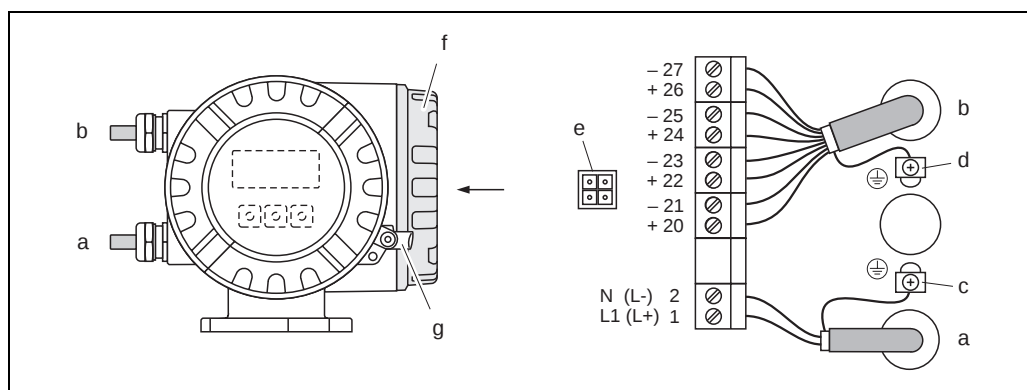

Fig. 21: Connecting the transmitter (aluminum field housing); cable cross-section: max. 2.5 mm²
- Wiring diagram (aluminum housing) → Fig. 21